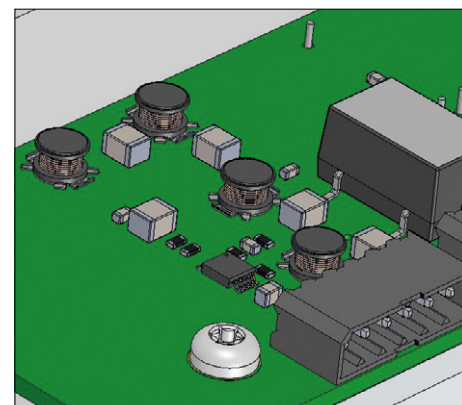

Figure 3. 3D mechanical integration.
**A** In the past few years, electronics and mechanics have benefitted from three dimensional modeling which allows us to study the actual layout on the card (**Figure 3**). That not only simplifies the technical drawings, but it also allows resolution of thermal problems. Finally, it has never been easier, quicker and cheaper to have printed circuit boards made up professionally, no matter where in the world you are.